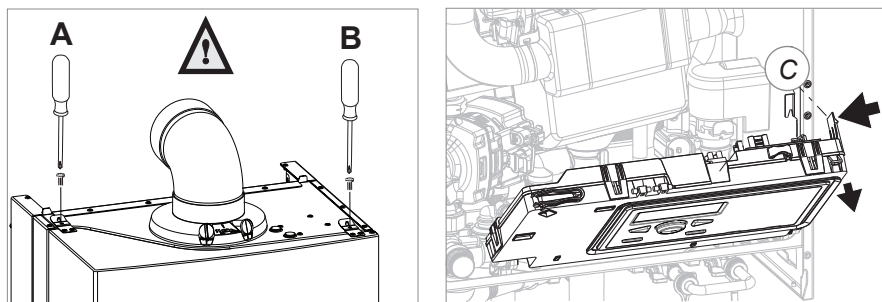

Figure 15.a
- Remove the screws from the 2 fasteners A and B (see fig. 15.a);